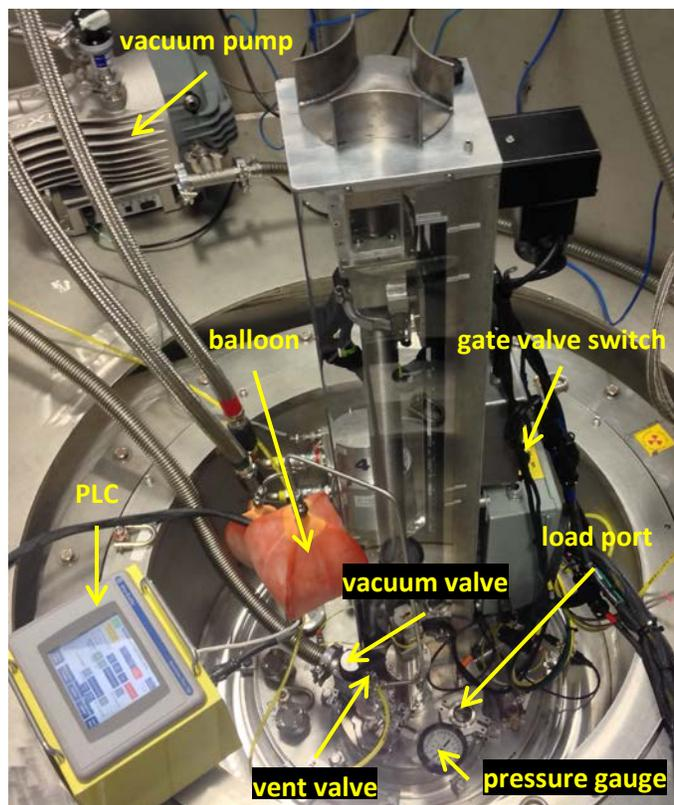

Figure 2. PAC sample changer
- e. On the sample changer, close the gate valve to isolate the cold area from the carousel (Figure 2).
- a. Open the He vent valve on the PAC (Figure 2) and verify flow. The upper balloon should start to inflate.
- b. Leaving the He flowing, remove the clamp and window from the loading port (Figure 2).
- a. With the vacuum valve (Figure 2) closed, start the vacuum pump by pressing the green button. Open the valve on the top of the vacuum pump.